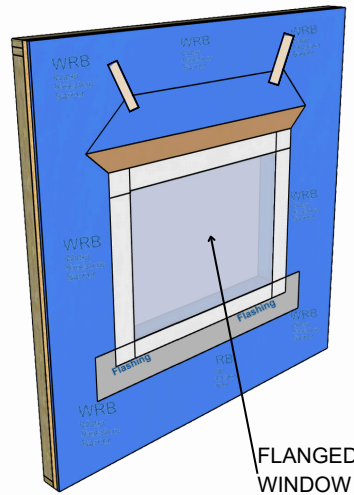

Figure 6: Install Jamb Flashing
- Install jamb flashing on the left and right sides of the rough opening over the flange (Figure 6)